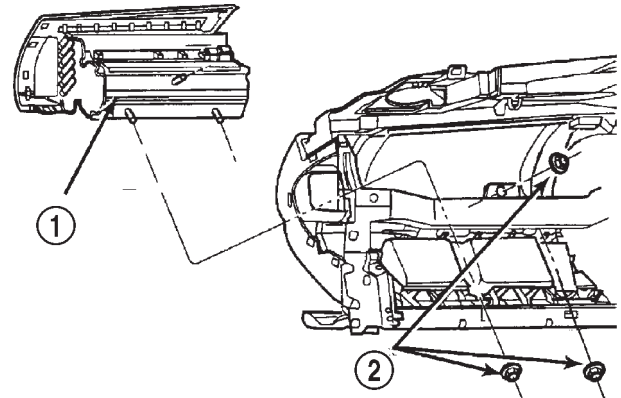

Figure 2
9. Remove the three (3) airbag module attaching nuts from the instrument panel support structure (Figure 2).
16. Install the three (3) airbag module to instrument panel support structure attaching nuts (Figure 2). Tighten the nuts to 250 in–lbs (28 N·m).
20. Install the two (2) top cover screws in the defroster opening. Tighten the screws securely.